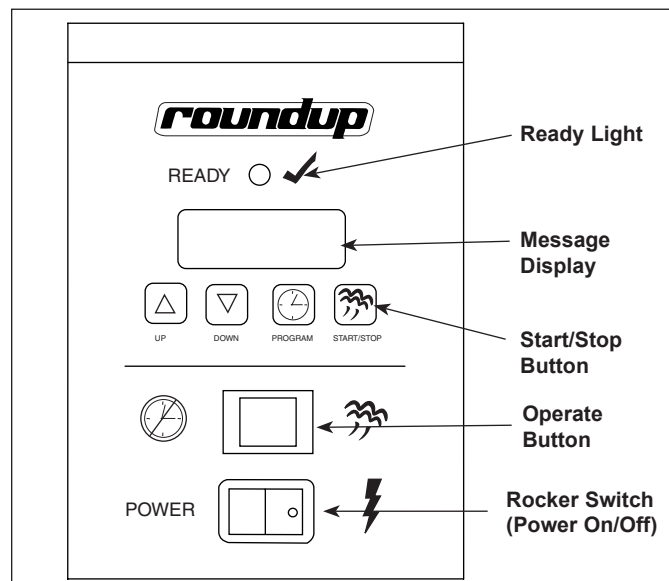
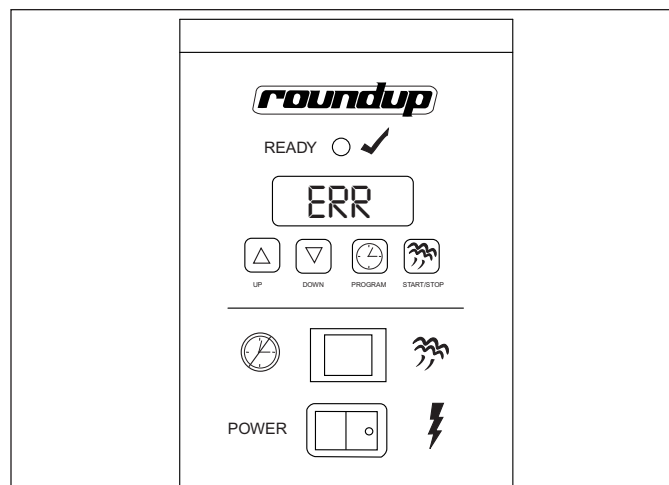

Figure 5. Operating Controls—Timer Models
Figure 9. “ERR” Fault Code
When the **OPERATE** button (Figure 5) is pressed and released, power is supplied to the water pump (Water Tank models) or solenoid valve (Direct Water Hookup models). The pump/solenoid operates and water sprays onto the heated steam generator (Figure 9). The water flashes immediately into steam and steams the product.
The **OPERATE** button (Figure 5) is pressed and released to initiate a single steam shot. The Control Board applies power to the Water Pump/Solenoid and a shot of steam occurs.
The control is used to set the desired steam time (up to 99 minutes, 59 seconds). When the **START/STOP** button (Figure 5) is pressed, the Control Board applies power to the water pump/solenoid at regular intervals for the duration of the displayed cycle time. The display counts down to zero, sounds an audible signal when the cycle is complete, and then reverts back to the original programmed cycle time. The unit is ready for the next cycle when the green ready light is on.
1. Turn the power on (Figure 5).
NOTE: Pressing and holding the OPERATE button for longer than 1 second at a time, and/or too often (before 20 seconds), will flood out the Generator surface (Figure 9) and result in poor steaming.
3. Remove the Spray Tube (Figure 9) by lifting the loose end and pulling it out of the generator hole.